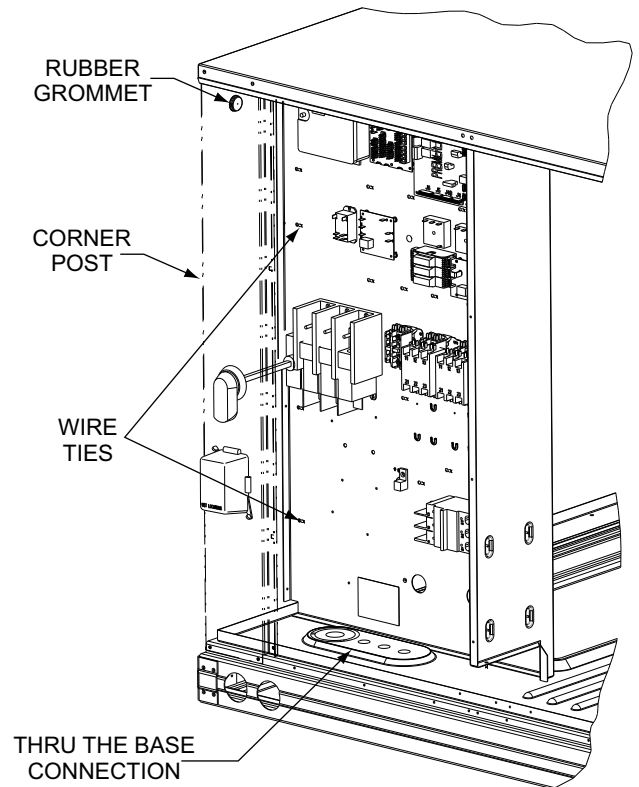

Fig. 44 — Field Control Wiring Raceway
Correctly rated low voltage wire can be routed through the rubber grommet located on the corner post adjacent to the control box access panel. Route wire through the grommet and then route the wire behind the corner post utilizing the factory provided wire ties secured to the control box. This will ensure separation of the field low voltage wire and the high voltage circuit. Route the low voltage wire to the central terminal board. See Fig. 44.
2. Feed wires through the raceway built into the corner post (see Fig. 44) to the 24-v barrier located on the left side of the control box. The raceway provides the UL-required clearance between high-voltage and low-voltage wiring.